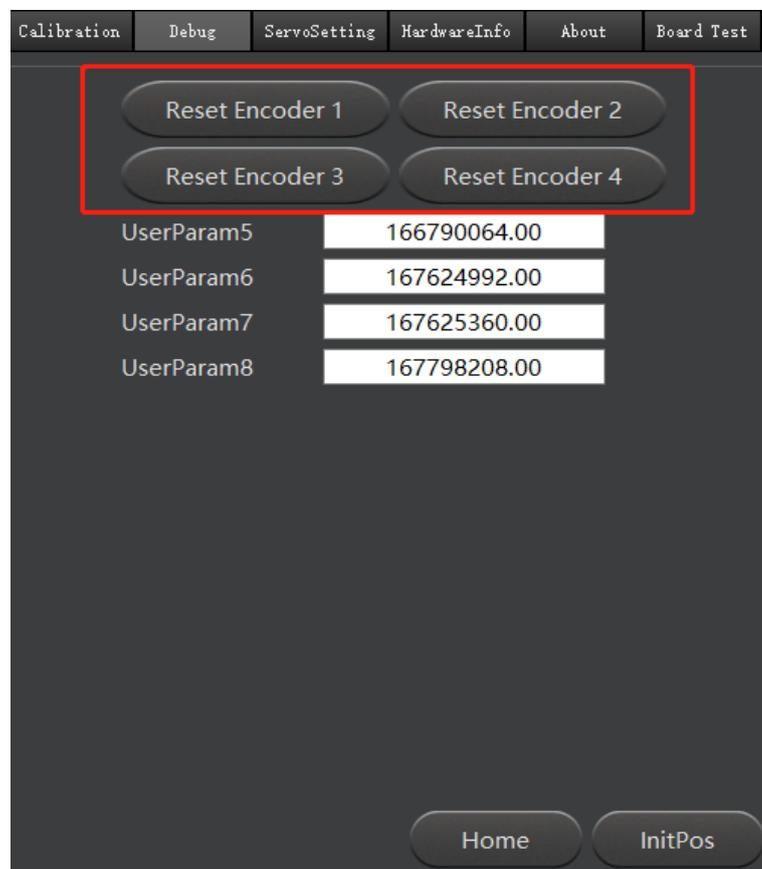

Figure 7.15 Reset Encoders
3. Click **Reset Encoder1**, **Reset Encoder2**, **Reset Encoder3**, and **Reset Encoder4** respectively on the **Debug** page to reset J1 Encoder, J2 Encoder, J3 Encoder and J4 Encoder, as shown in Figure 7.15.